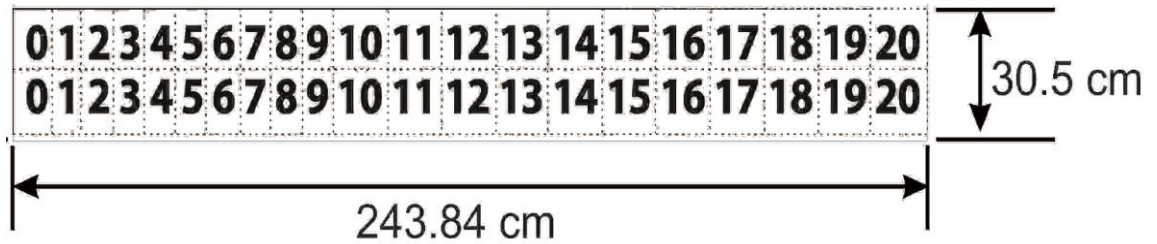

Figure 3: Patch Section
- The dimension of Patch section is 30.5cm x 243.84cm with the numbers printed on it as shown in Figure 3.